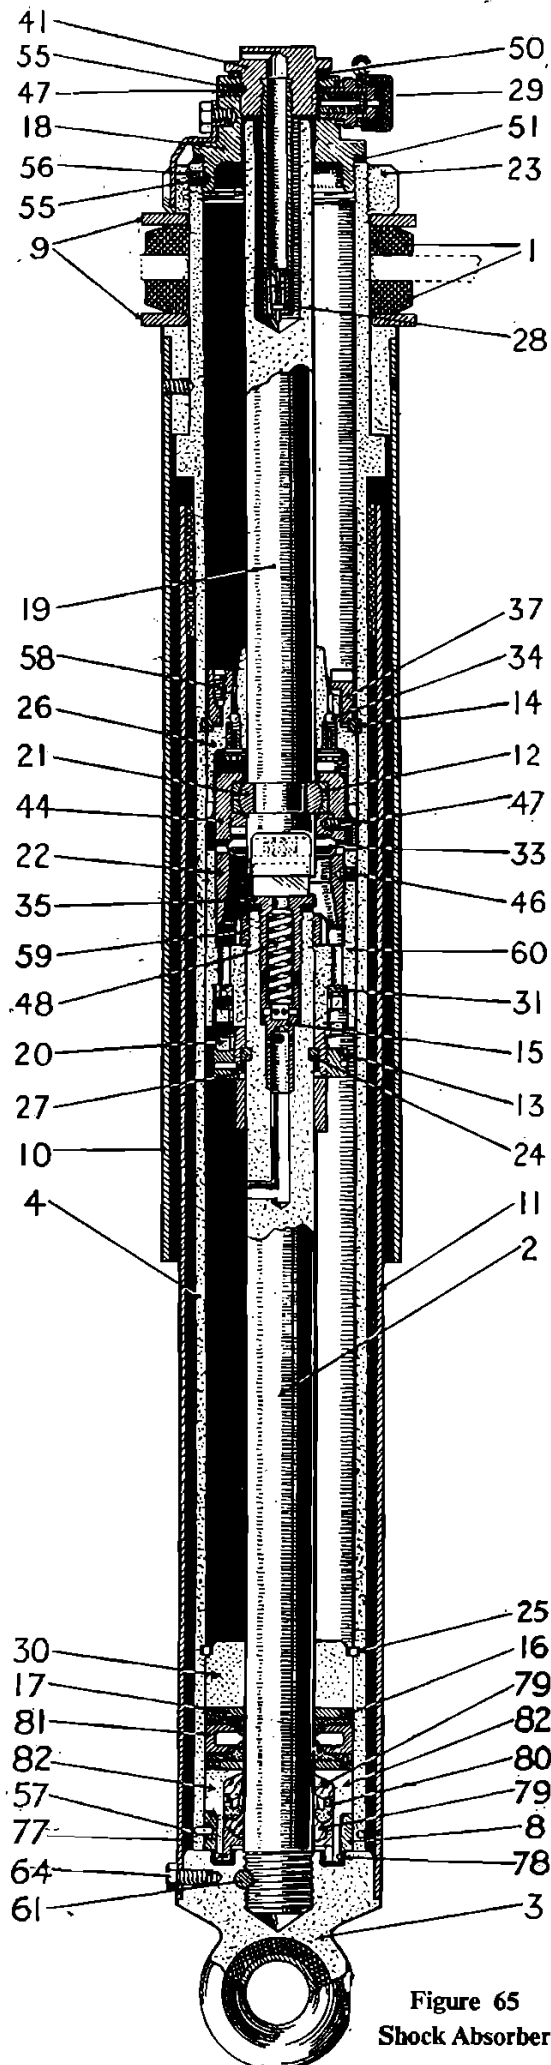

Figure 65
The absorber is shown in section in Fig. 65 and it will be seen that the cylinder (4) encloses all the working parts, its top end being connected to the body anchorage by means of the two retaining discs (9) and the rubber washers (1) which are chamfered to allow easy angular movement. These are retained by means of the cylinder nut (23), which is again locked by a setscrew, and this end of the cylinder is closed by the cylinder end cap (18) and adjusting plug (41). The bottom end of the cylinder is closed by a gland consisting of nut (8), gland ring (82) and packings.